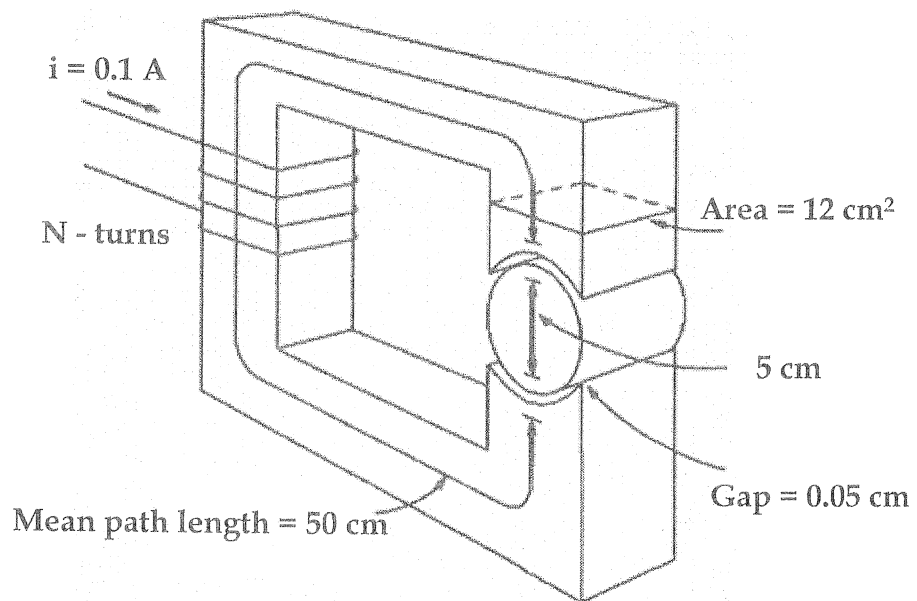

Figure: Q1 (c)
- b) Explain how the hysteresis phenomenon causes energy losses in alternating-current (AC) devices? [2.0 Marks]
- c) **Figure Q1 (c)** shows a simple rotor-stator arrangement for a DC motor. The relative permeability of the core is **2000** and is a constant. The effective area of the air gaps due to fringing effects becomes **14 cm²** and everywhere else it is **12 cm²**. How many turns of the wire on the core is required to produce a flux density of **0.1 T** with a field current of **0.1 A**? [5.0 Marks]